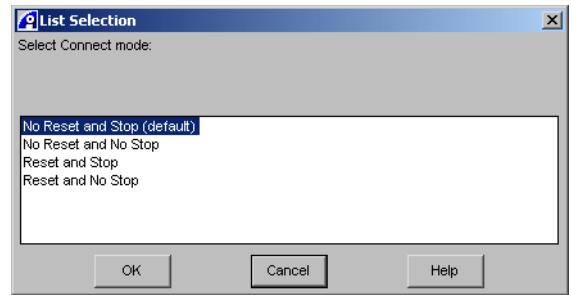

Figure 2-3 Connect Mode selection box
2. Select **Connect (Defining Mode)...** to display the Connect Mode list selection box shown in Figure 2-3 on page 2-15.
The selection box, shown in Figure 2-3 on page 2-15, offers a series of state options to make the connection. The options shown depend on the interface software that manages the target connection and so vary depending on the connection entry you select in the Connection Control window. In this example, the selection box contains an entry No Reset and Stop (default). This is either the:
You can specify a user-defined connect mode to display a prompt to enable you to choose the connection mode for each connection. In this case, RealView Debugger displays the Connect Mode selection box shown in Figure 2-3 on page 2-15. However, where the prompt setting is defined, the state options offered are all supported by the target vehicle and so do not include a default option.